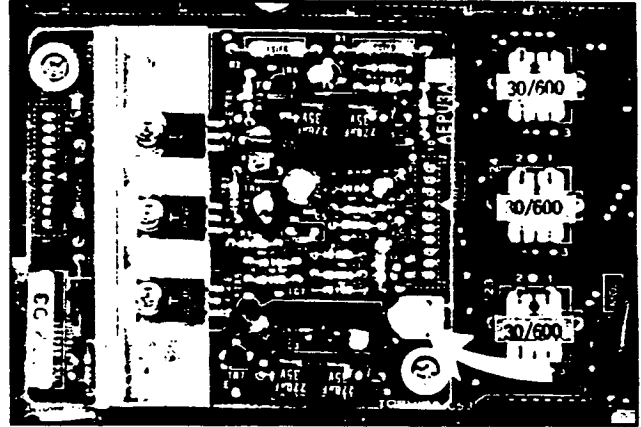

FIGURE 32—AEPU VOLUME SWITCH
13.34 Adjust the speaker volume with the volume control on the AEPU PCB (Figure 32).